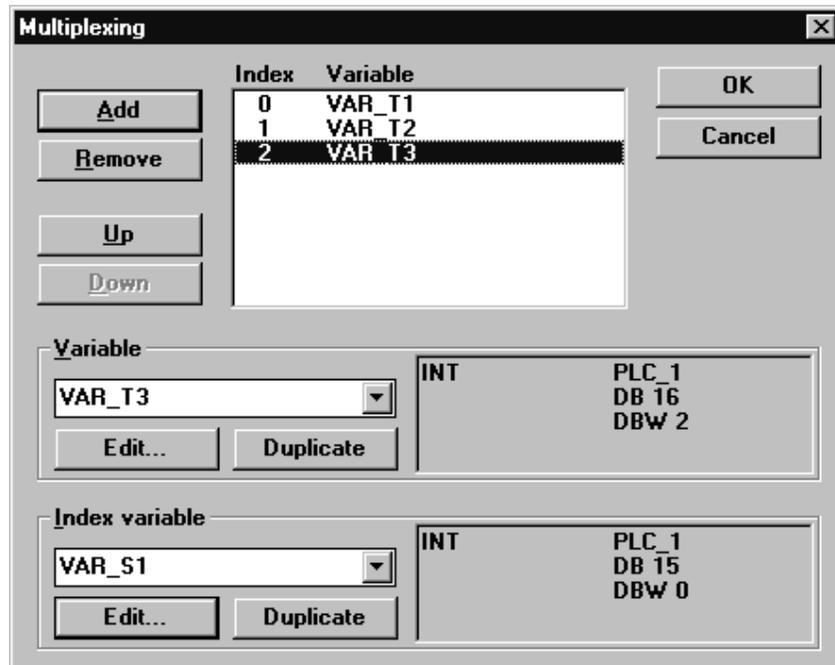

Figure 7-21 Multiplexing Dialog Box
8. Repeat steps 5. and 7. for variables `VAR_T2` and `VAR_T3`. Figure 7-21 shows the appearance of the corresponding configuration.